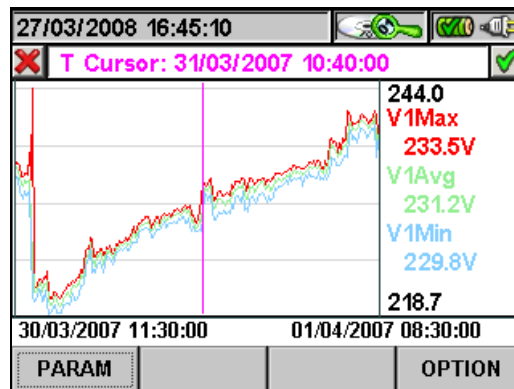

Fig. 100: Recording graph
- The **ENTER** key (or the smart icon  on the display) confirms the selection previously made and displays the graph of the selected parameter (Fig. 100)